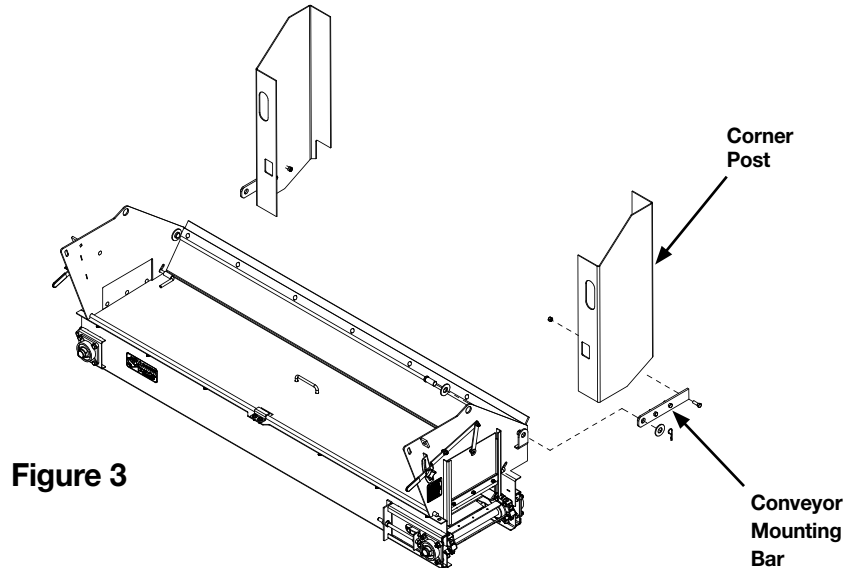

Figure 3
2. With the spreader in the desired position, attach one conveyor mounting bar to each spreader end plate using the supplied clevis pins, flat washers, and hairpin keepers. Keeping the conveyor mounting bars in the horizontal position mark and drill three $\frac{1}{2}$ " holes through each bar and rear dump body corner post. Secure mounting bars to the corner posts with three $\frac{1}{2}$ " grade 5 bolts & locknuts per side (see Figure 3). Note: conveyor mounting bars may be solid welded to the dump body instead of bolted.